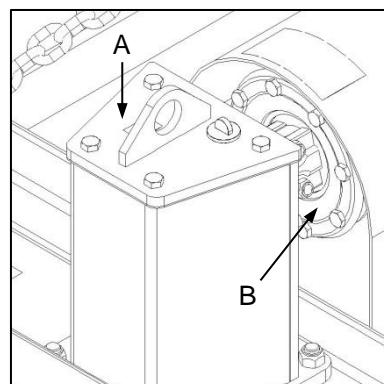

Fig. 6
- ✓ Discolouration or blistering of painted surfaces of the friction clutch housing (Fig. 6-B).
- ✓ The friction clutch housing feels significantly hotter than the surface of the gearbox casing (Fig. 6-A).
- ✓ Verkleuring of blaasvorming van geverfde oppervlakte van die wrywingkoppelaaromhulsel (Fig. 6-B).
- ✓ Die wrywingkoppelaaromhulsel voel beduidend warmer as die ratkasomhulsel (Fig. 6-A).